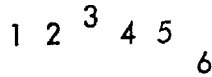

Figure 4-2. Typical Blade Pattern.
- g) With the targets thus displayed, the operator may make judgments of track and lead-lag. A typical display might be as in Fig. 4-2.